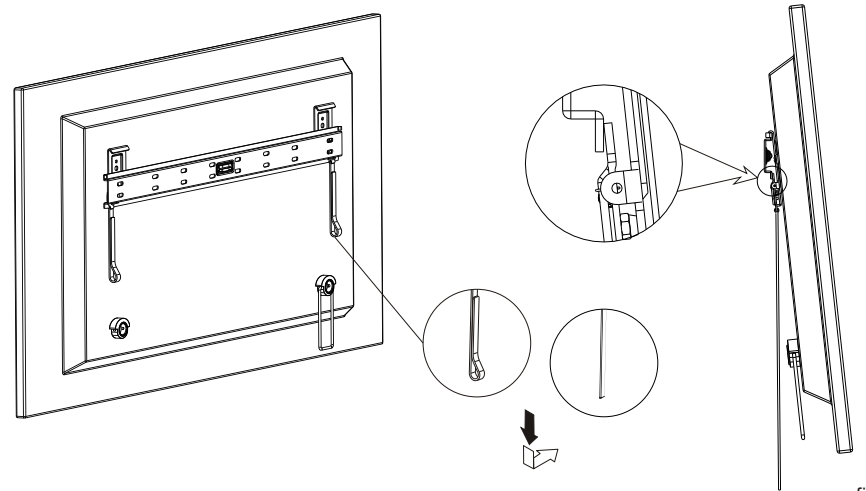

fig. 3.1
- After the wall mount has been safely secured to the wall, with 2 people carefully lift your TV and hook the top hooks over the top of the wall plate rail. , see Fig. 3-1.